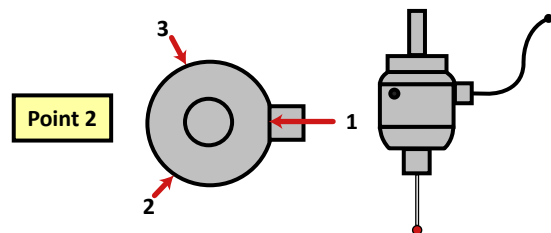

Figure 8.20: Cable Right Position
- Rotate the spindle by half a turn and re-lock it. The cable will now be to the right (figure 8.20). This is CABLE RIGHT position.